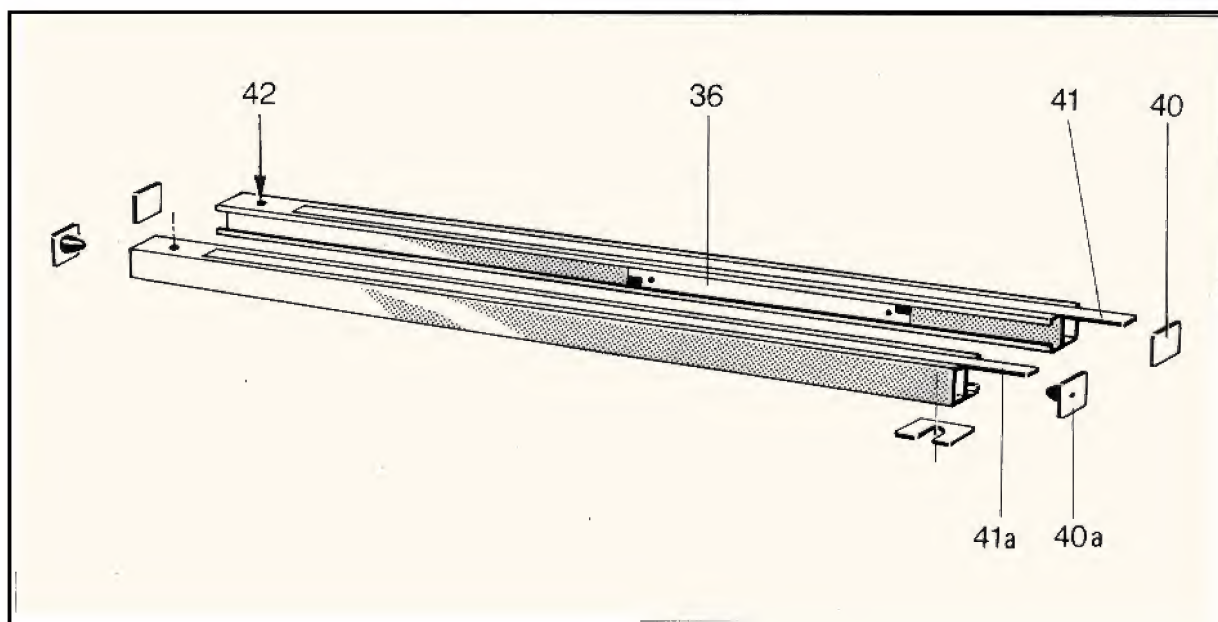

Fig. 28
FFD: Adjust switching rod on rear floor profile (Fig. 28/item 36) after loosening the two set screws.
- \* Remove lateral covers (Fig. 28/ items 40 and 40a) from floor rails, push out trim covers (Fig. 28/ items 41 and 41a) and lay them down.
- \* Check all floor mounting bolts (Fig. 28/item 42) for proper fit and tighten if necessary. Torque 50 Nm.